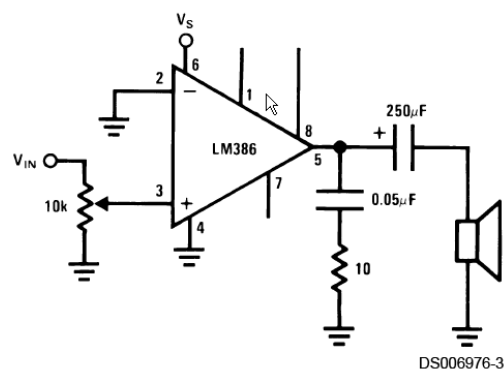

Figure 3.25: audio amplifier schematic with a gain of 20 (from the datasheet)
2. Construct an audio amplifier with a gain of 20 using the LM386 (see Figure 3.25).